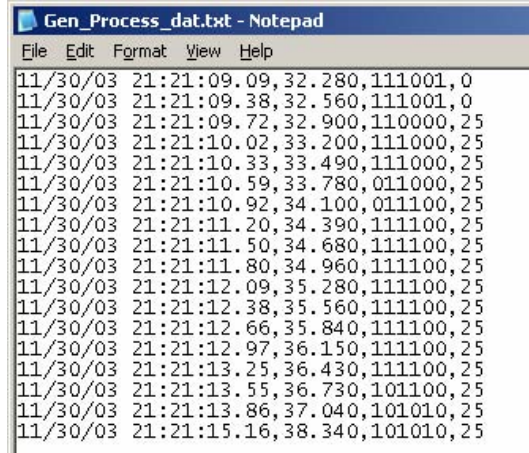

Figure 4-13
- √ Click the "Open Log" button to view the data saved as shown in Figure 4-13.